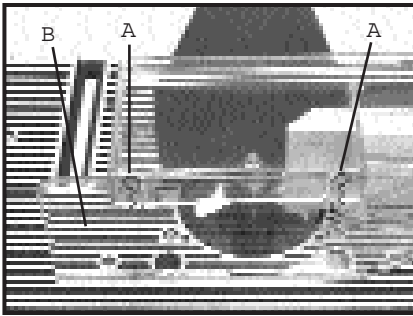
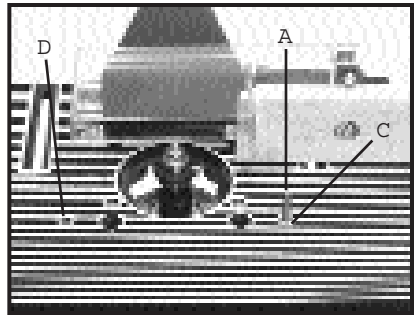

Fig. 18
Fig. 19
For shaping irregular edges a starting pin (A) Fig. 19, is furnished with your Router/Shaper for use with piloted router bits. Before installing the starting pin, remove: the retaining clips (A) Fig. 18, the front guard (B) Fig. 18, and the left hand (out-feed) fence assembly.
Insert starting pin into either hole (C) or (D) Fig. 19. For majority of shaping operations the starting pin should be installed in hole (C) Fig. 19, as work must be fed against the direction of rotation of the cutter.